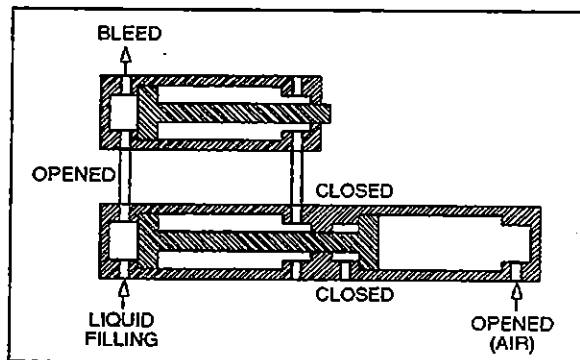

Figure 14
4. Close the door manually, or push cylinder in, then the hydro-pneumatic system should be as shown in figure 14.
5. Fill the master cylinder with a low pressure pump (less than 75 psi (515 kPa)), through the filling cock. See figure 14.